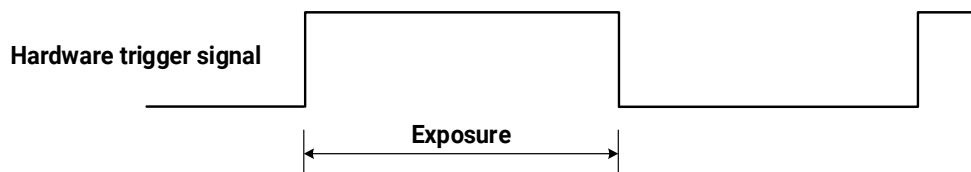

Figure 8-29 The sequence diagram in rising edge trigger of TriggerWidth exposure mode
- If rising edge triggering is enabled, exposure starts when the trigger signal rises and continues until the trigger signal falls, as shown in Figure 8-29